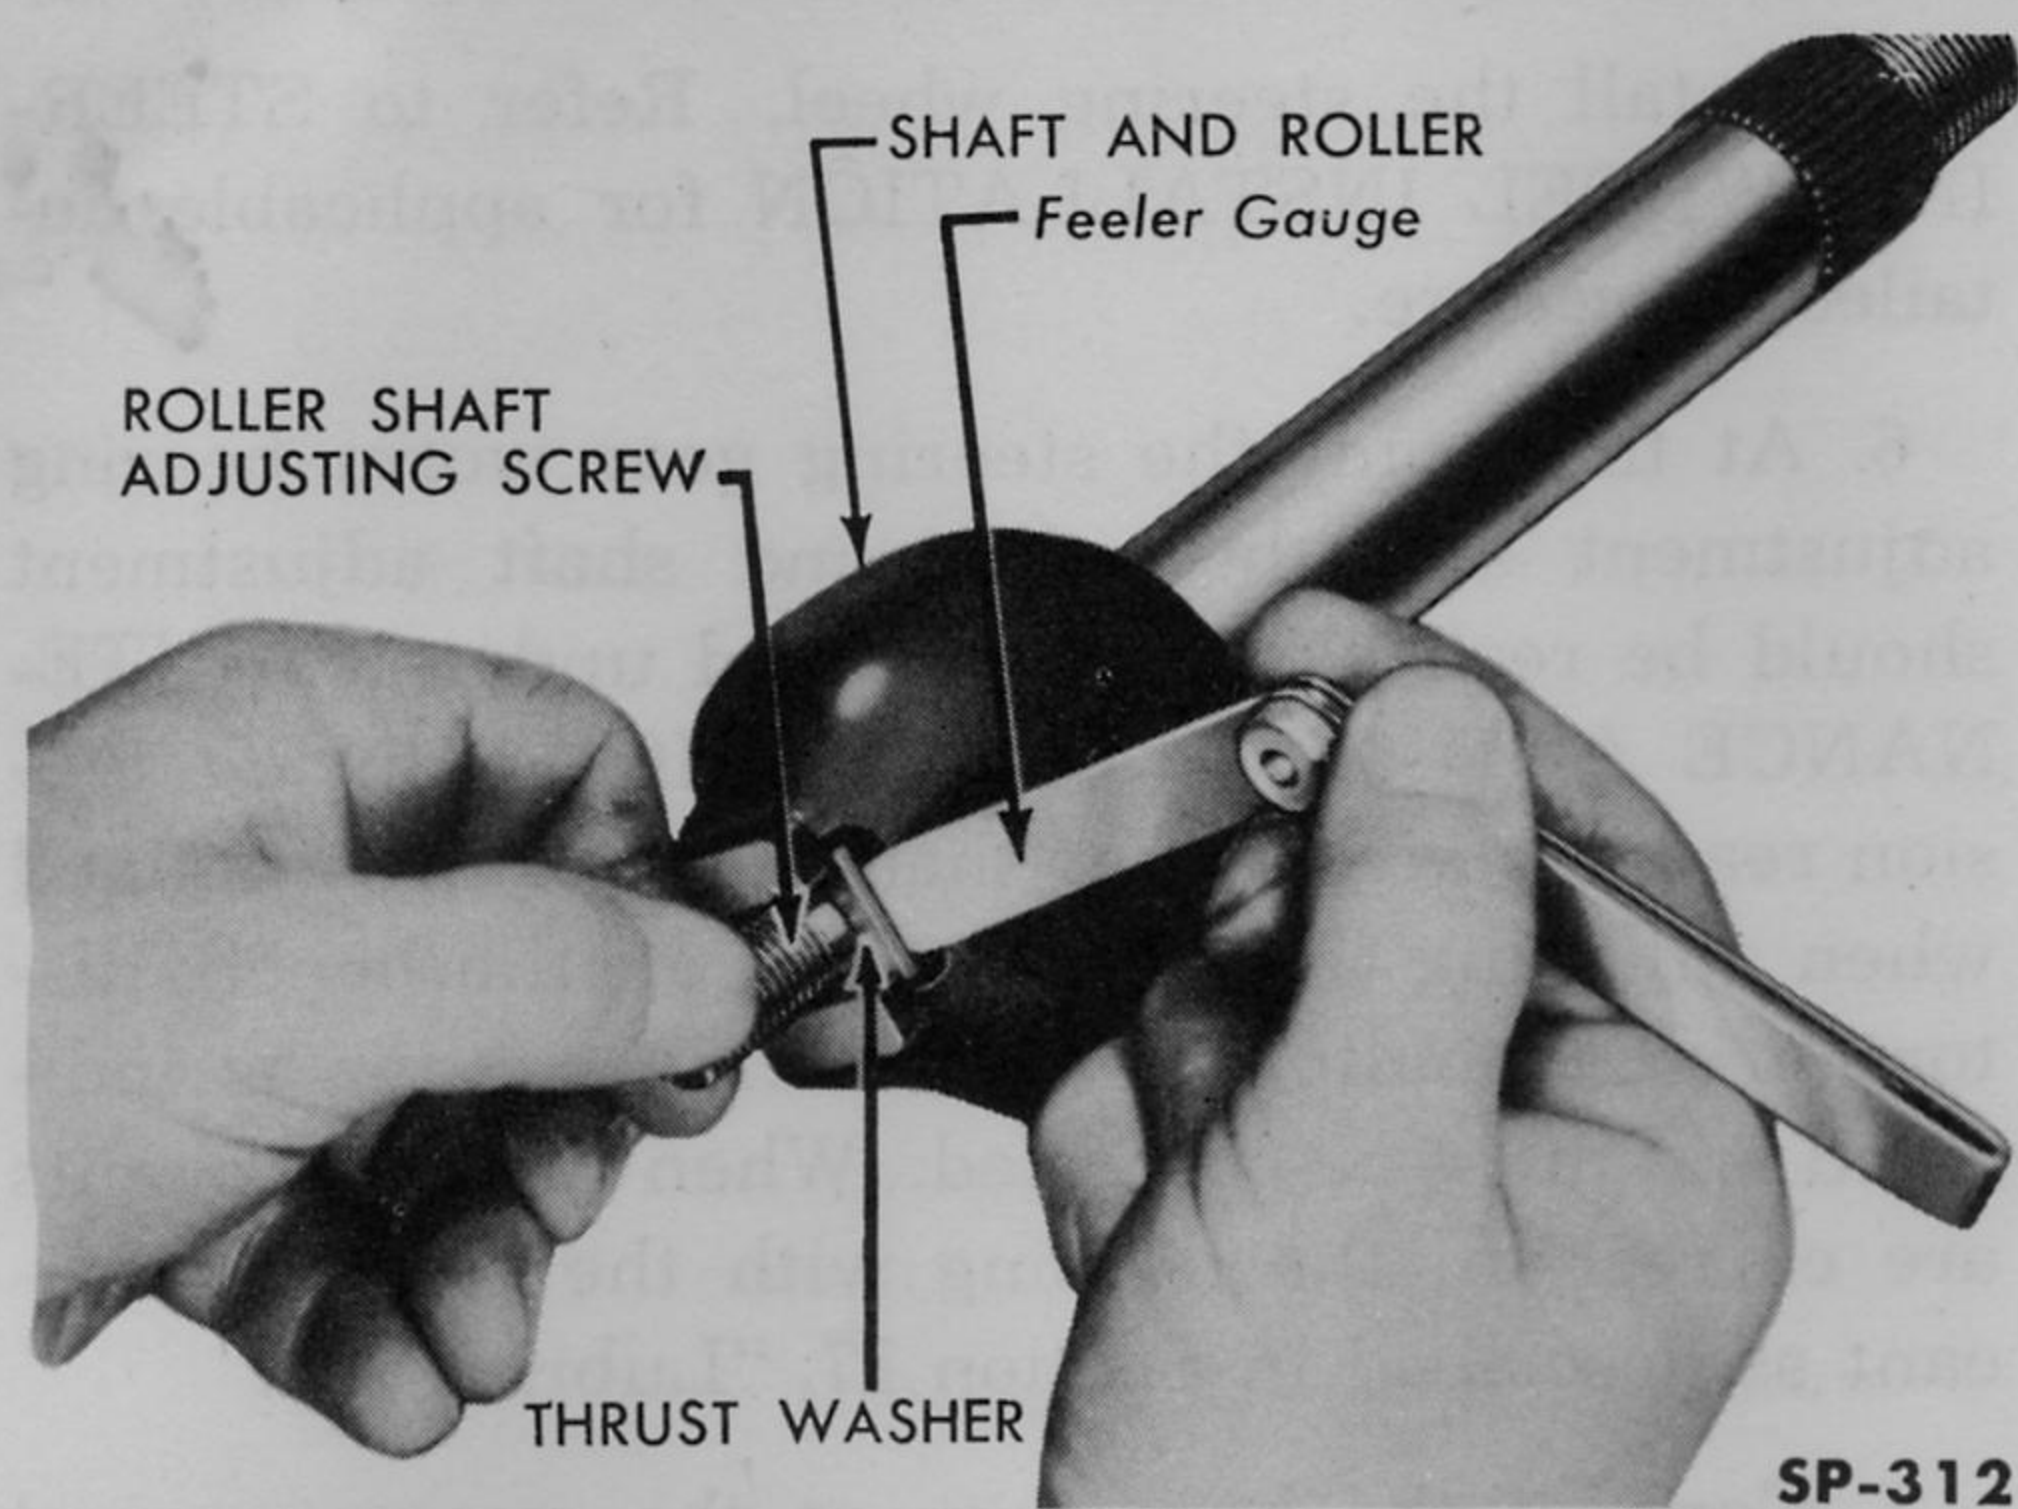

Fig. 295—Checking Roller Shaft Adjusting Screw Clearance
4. Check the condition of the shaft and roller adjusting screw threads. With the adjusting screw and the thrust washer inserted in the slotted end of the roller shaft, check the clearance between the head of the screw and the bottom of the slot as shown in Fig. 295. Clearance must be not more than .002 of an inch. Replace thrust washer and/or the adjusting screw as required to obtain correct clearance.